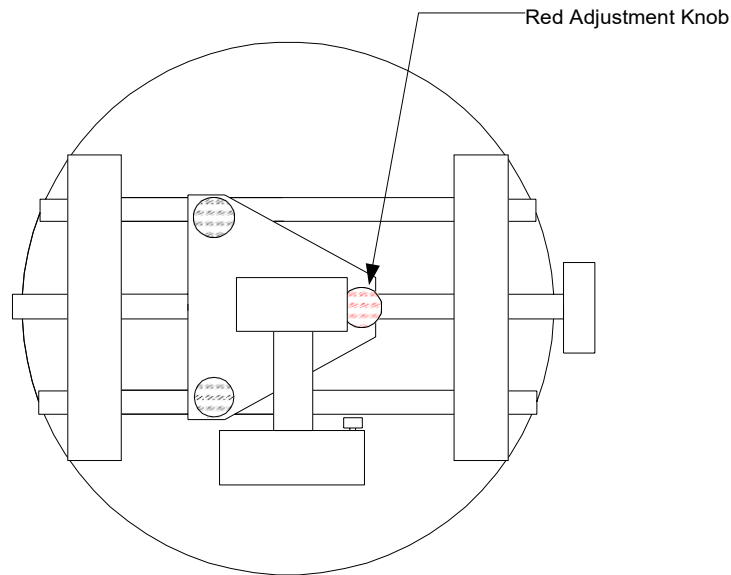

Figure 16
- 9) Rotate the wheel $\frac{1}{2}$ turn, until the clamping knob is at a 3:00 o'clock position (Fig 16).